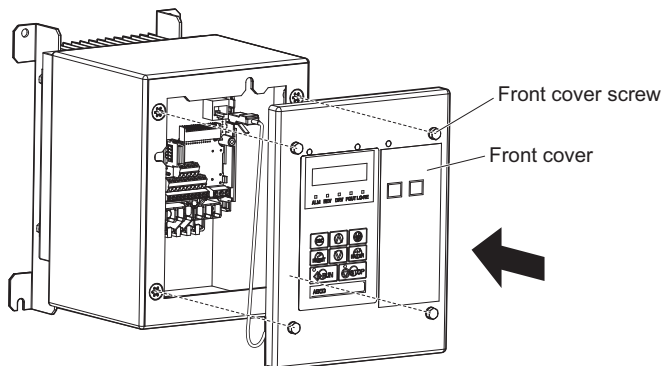

Figure 29 Attach IP66/UL Type 4X Front Cover
- 29.** For IP66/UL Type 4X enclosure models, reattach the front cover of the drive using four screws (see Figure 29). Refer to Table 9 on page 41 for tightening torque specifications.